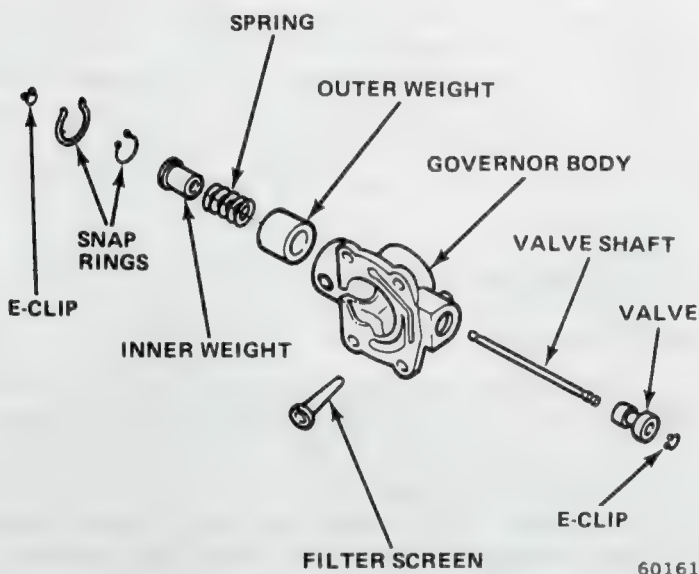

Fig. 2C-25 Governor Valve Assembly
(1) Remove large snap ring from weight end of governor body (fig. 2C-25).
(2) Remove weight assembly.
(3) Remove snap ring from governor weight assembly.
(4) Separate inner weight, spring, and outer weight. Identify spring with tag.
(5) If governor support or governor body is to be replaced, straighten lock tabs and remove four bolts that attach body to support.
(6) Remove governor filter.